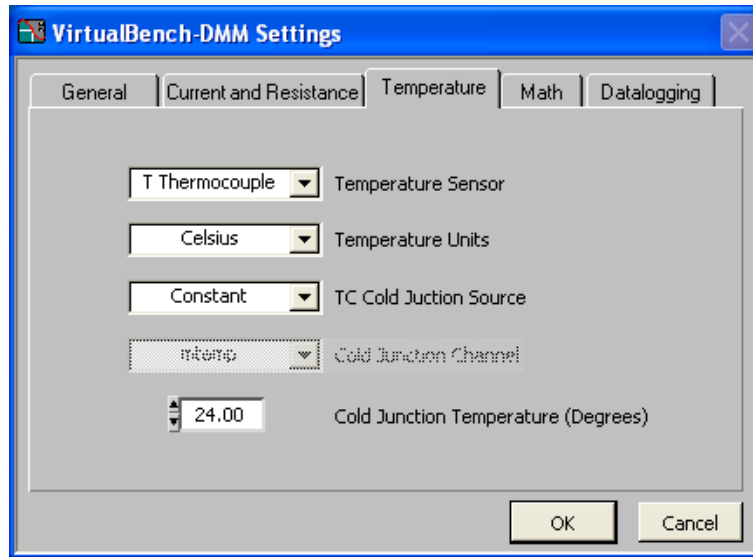

Figure 3. The DMM Temperature Settings Window
- Under the *Edit, Settings, Temperature* Tab (Figure 3), set the Temperature Sensor to "T Thermocouple" (for copper-constantan), the Temperature Units to "Celsius", the TC Cold Junction Source to "Constant" and the Cold Junction Temperature (Degrees) to your dial thermometer measurement. If your thermocouple measurements show obvious offset as you begin your calibration runs, this Junction Temperature may be adjusted. Keep in mind that the ice bath is the very best known temperature in this experiment and it's always 0 C.